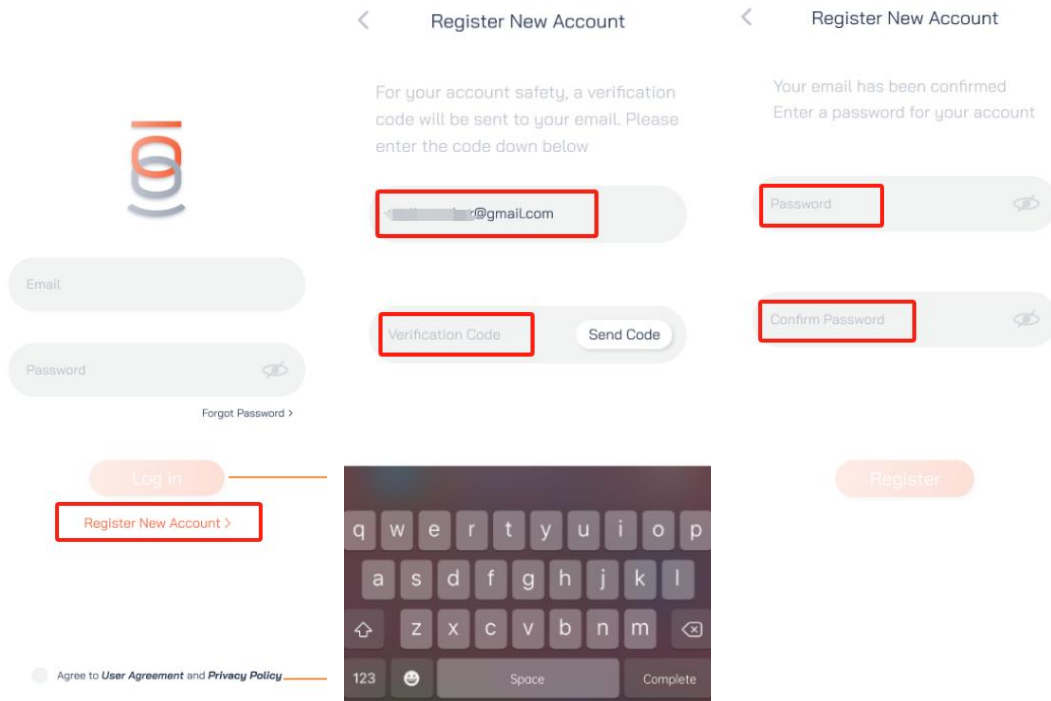
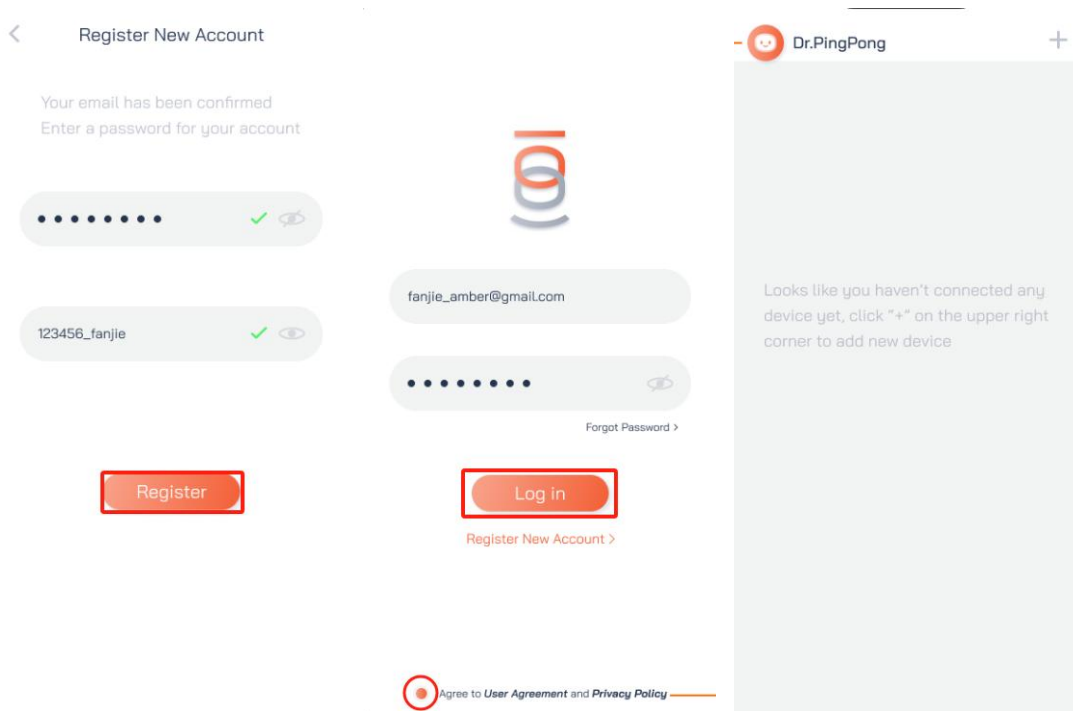

Figure 3-1
Figure 3-2
3.2.1 After opening the APP, new users should click Register New Account on the login screen. Follow the prompts to complete the registration. Once registered, users can log in with their account and password. Verification codes are valid for 60 minutes (Figures 3-1 and Figure 3-2).